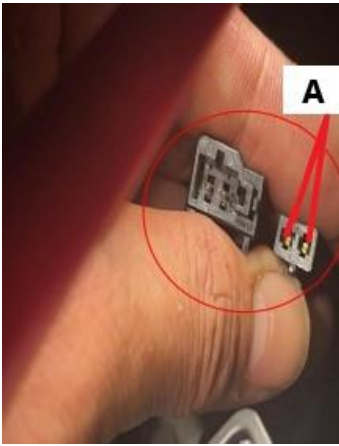

Figure 3
5) Referring to Figure 3 - Disconnect the E24 connection (circle)
**Hint: The next part of the procedure requires the resistance of the seat belt buckle harness to be measured. The resistance measurement must be taken at the location shown in Figure 3 (Point A) The operative must take care not to damage the terminals shown at point A when taking the resistance measurements**